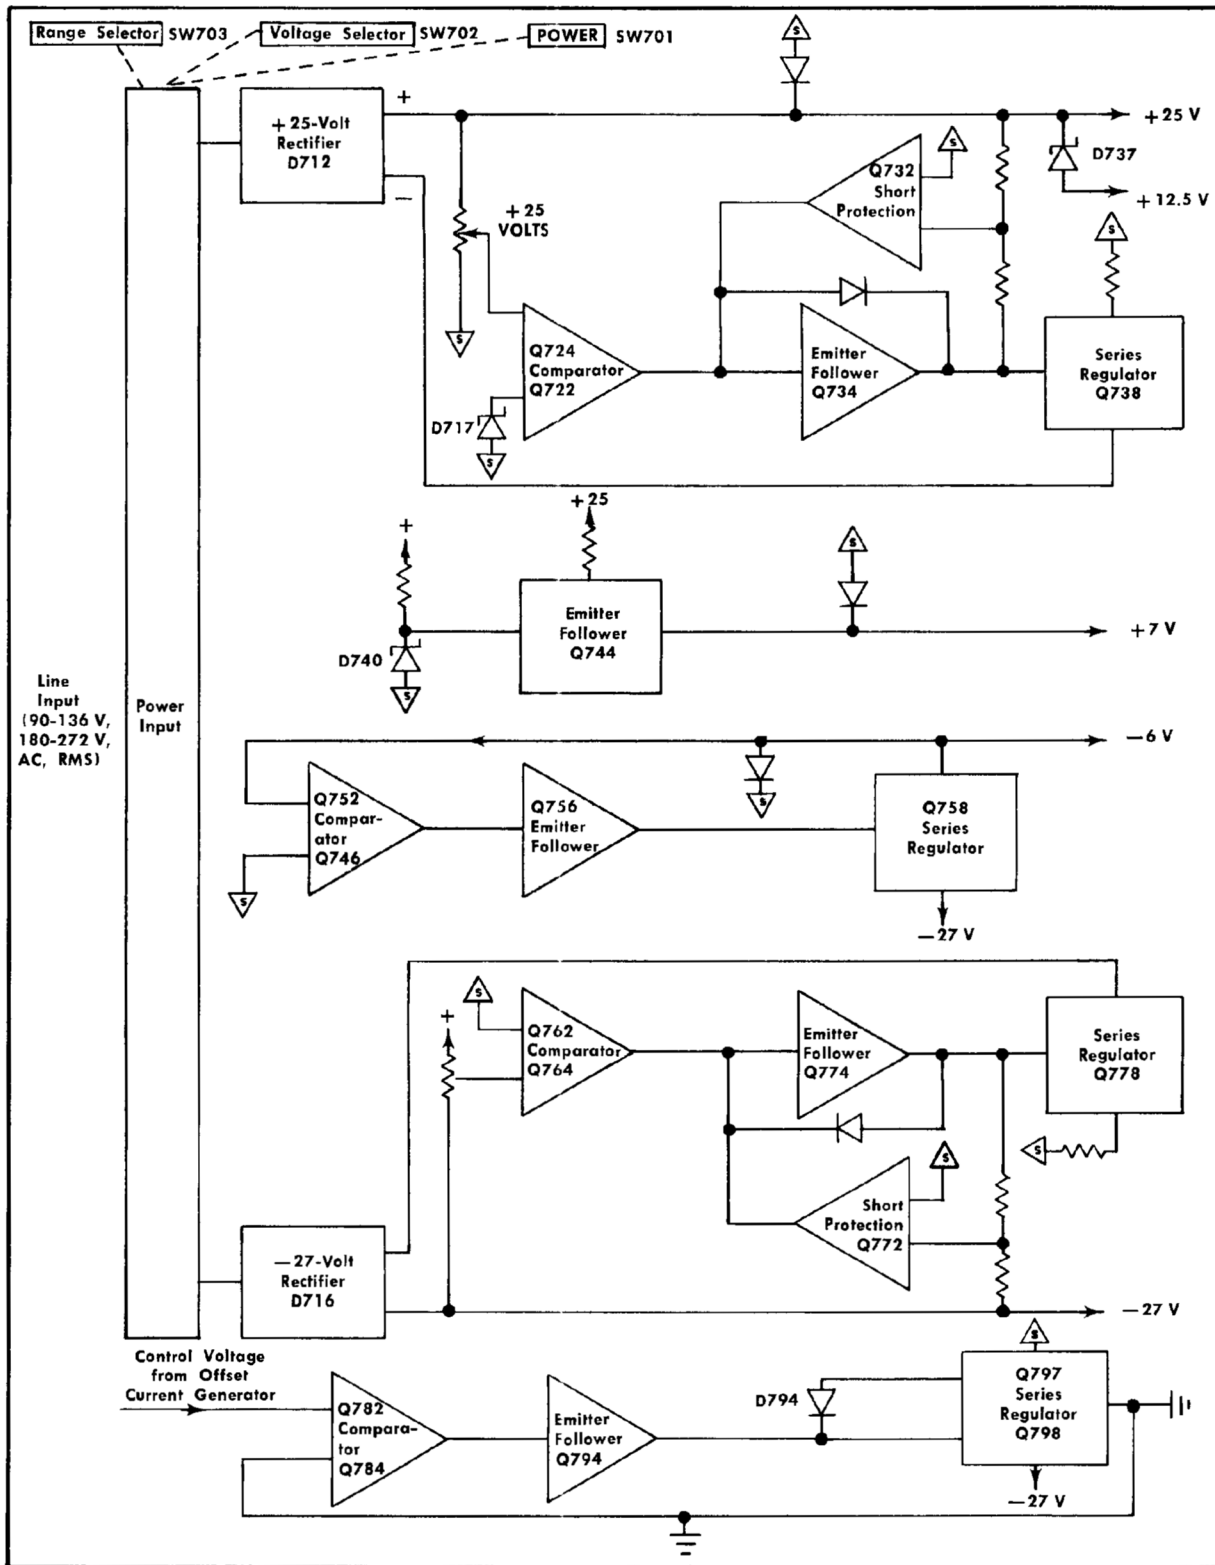

Fig. 3-11. Power Supply Block Diagram.
**General.** The Type 115 can be operated either from a 115-volt or a 230-volt line voltage source. The power supply (see Fig. 3-11) consists of a single transformer which has two secondaries and produces 5 regulated, short-proof voltages: +25 volts, +12.5 volts +7 volts, —27 volts and — 6 volts. As discussed in the description of the output stage, the power supply is floating in the sense that all the voltages produced are referenced to signal ground which moves up and down with respect to chassis ground. Also included in the floating power supply is the variable supply which is referenced to chassis ground and provides variable separation between signal ground and chassis ground.